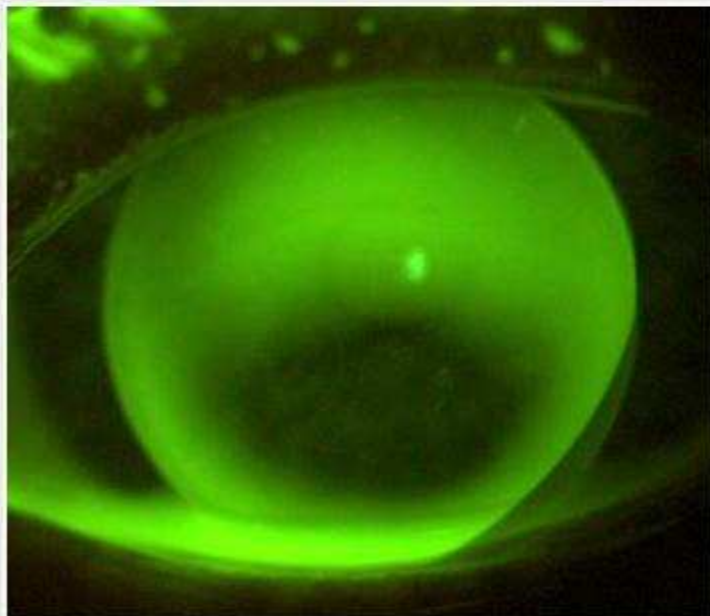

Figure 2: Fluorescein pattern with current aspheric, rotationally symmetric (R)GP.
The current (R)GP lens, an aspheric, rotationally symmetric design with a 9.30mm diameter, presented with apical touch and inferior lift-off. This made the contact lens extremely uncomfortable and also induced some diffuse stromal scarring (Figure 2).